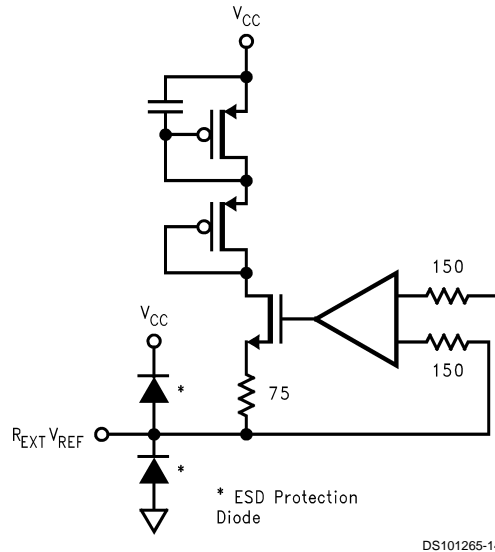

FIGURE 11. Pin 1 ( $R_{\text{EXT}} V_{\text{REF}}$ )
**Pin 1—REXT VREF** A 10 kΩ 1% resistor is connected to this pin to set up the internal current sources. The LM1253A is optimized for this value of resistor. A DC voltage only will be on this pin. Decreasing the value of this resistor will increase supply current while degrading performance; increasing the value of the resistor will decrease supply current and also degrade the performance. Do not place the resistor close to sources of heat such as the CRT driver. Figure 29 shows the components connected to pin 1, Figure 11 shows the internal schematic of pin 1.